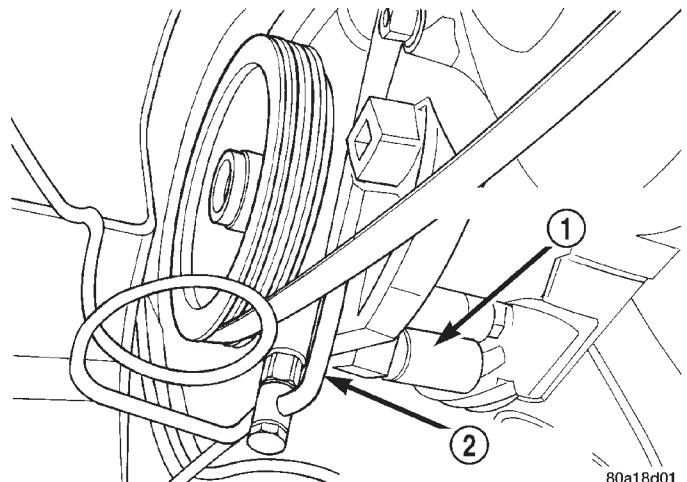
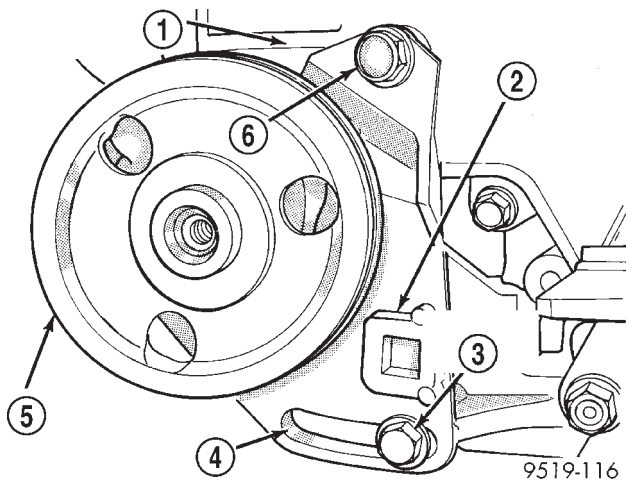

Fig. 8 Power Steering Pressure Hose Attachment To Pump
Fig. 7 Power Steering Pump Front Bracket Attachment
(9) Loosen bolt (Fig. 7) at top of power steering pump front mounting bracket, attaching it to the accessory drive bracket.
(10) Loosen bolt at adjustment slot, (Fig. 7) attaching the power steering pump front mounting bracket to cast aluminum accessory drive bracket on engine.
(11) Move the power steering pump toward the engine as far as possible.
(12) Remove the power steering fluid pressure hose from pressure fitting on power steering pump (Fig. 8). Be careful not to loose the copper sealing
(15) Remove bolt at adjustment slot, (Fig. 7) attaching the power steering pump front mounting bracket to cast aluminum accessory drive bracket on engine. Then remove bolt (Fig. 7) at top of power steering front mounting bracket, attaching it to the accessory drive bracket.
(16) Remove power steering pump, supply hose and its front mounting bracket as an assembly from the engine mounted power steering pump mounting bracket. Place the power steering pump on top of the antilock brakes hydraulic control unit.
(4) Install power steering pump and front bracket on engine mounted power steering pump mounting bracket. Loosely install bolt at adjusting slot and top of power steering pump front bracket (Fig. 7) mounting pump bracket to accessory drive bracket.